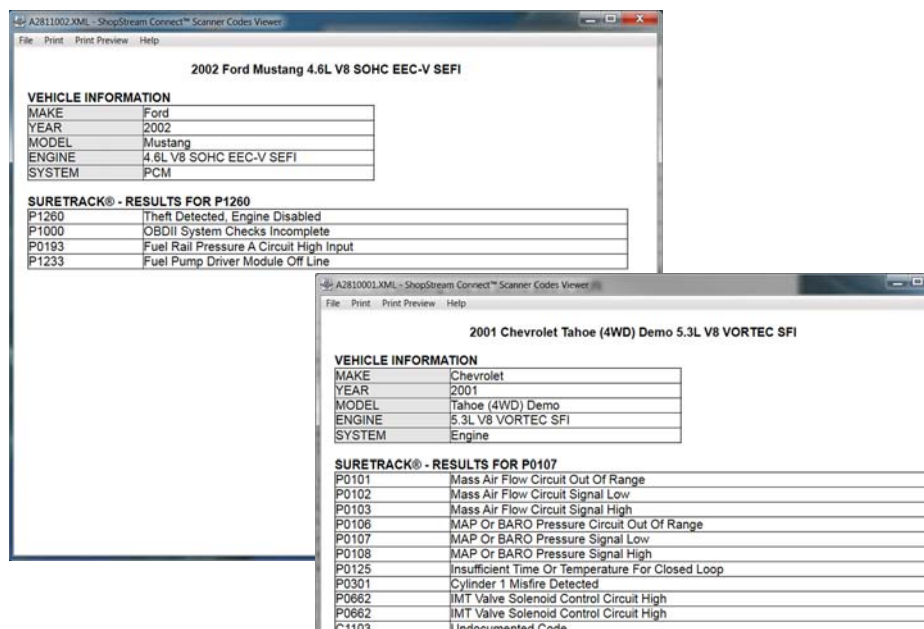

Figure 4-8 Typical - (.XML) files, viewed in ShopStream Connect
Saved (.XML) files can also be transferred to a personal computer (PC) using ShopStream Connect (Figure 4-8). Once the Diagnostic Tool is connected to the PC, (.XML) files can be printed, transferred, and copied. ShopStream Connect is a companion program that is available online, at no charge. See the ShopStream Connect website information at the front of this manual to visit the website and download the application.
(.XML) files transferred with ShopStream Connect are text files containing vehicle information, and the DTC list. The files can be viewed and printed from ShopStream Connect (Figure 4-8).